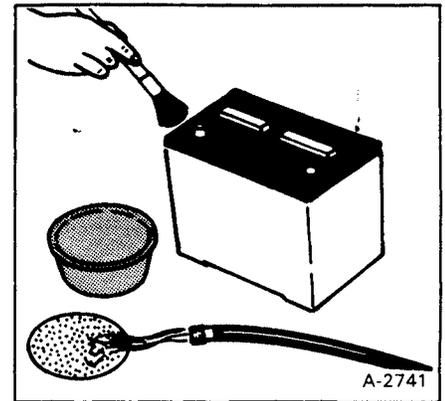

Fig. 1-24 Cleaning the Battery
- (1) The battery cables must be clean and tight. Check the water level of the batteries. Remove any acid or corrosion from the battery and cables with a sodium bicarbonate and water solution (Fig. 1-24). Cover the terminals with grease to prevent corrosion. Install the covers on the terminals.
- (2) Check the tension of the alternator belt (See Page 1-8).
- (3) Make sure that all wire connectors are tight.
- (4) Check for broken or open wires.
- (5) If the fuses become damaged, replace them with same type and size fuses.